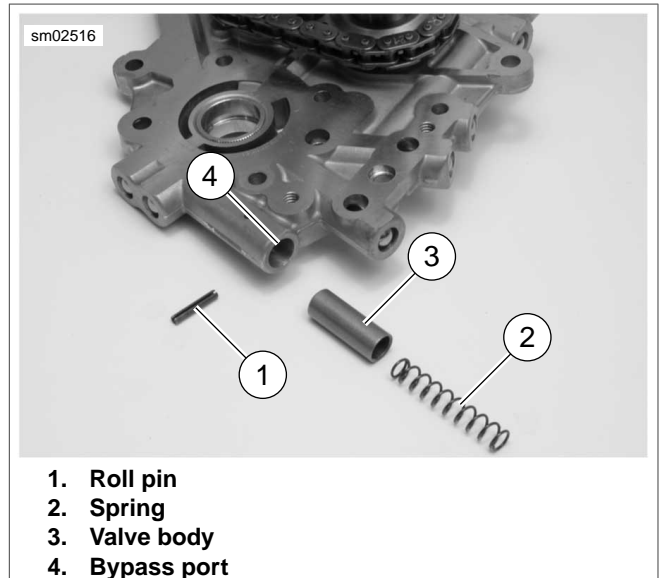

Figure 3-113. Oil Pressure Relief Valve Assembly
- See Figure 3-113. Using a 1/8 in. punch with a small hammer, carefully tap roll pin (1) from pin hole in cam support plate. Discard roll pin.
- Remove spring (2) and valve body (3) from bypass port.
- See Figure 3-113. Lubricate valve body (3) with clean H-D 20W50 engine oil. Slide valve body into bypass port of cam support plate with the open side facing outward.
- Slide spring (2) into bypass port until seated in open side of valve body.
- Start **new** roll pin (1) into hole in cam support plate. Compress spring in port using the blade of a small screwdriver.